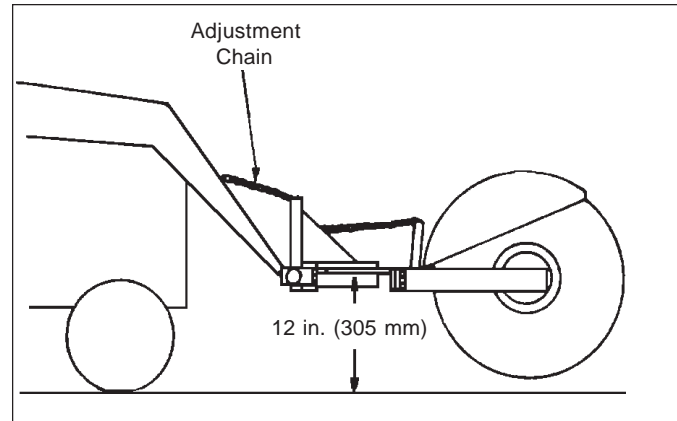

figure 1
5. Wrap the adjustment chain (figure 1) around the loader's cross bar.
6. Adjust the loader height until the assembly is 12 inches (305 mm) above the ground (figure 1). Then, level the mounting/swing assembly by tightening or loosening the adjustment chain.